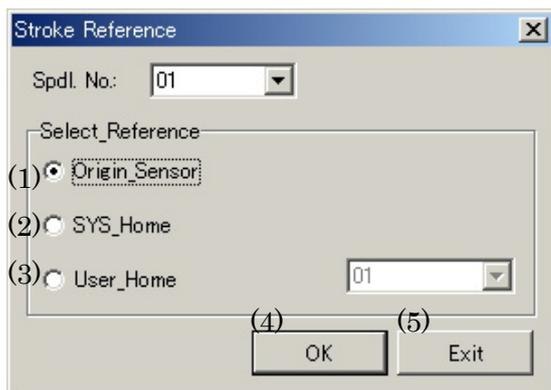

Fig.7-5-3 Stroke reference screen
| (24) | Stroke Ref. | The screen which chooses a standard position opens.(Fig. 7-5-3) |